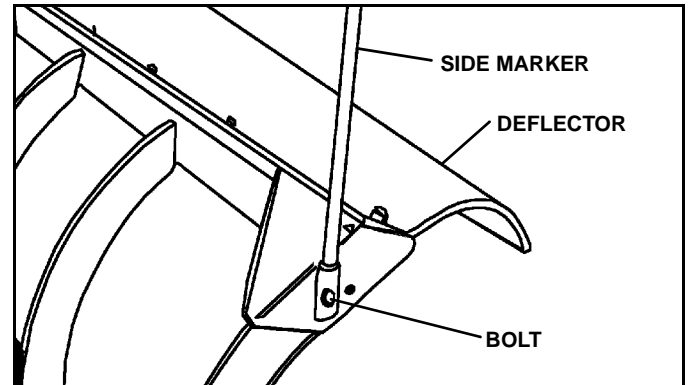

Figure 1-7
13. Remove the two (2) 5/16 x 2" cap screws, flat washers, and the two (2) spacers (#96102938) from the parts bag. Install the center deflector (shipped loose in the Power Pack carton) using the two (2) spacers, 5/16 x 2" cap screws and flat washers removed earlier. Torque to 15 lb-ft.
15. Install blade guides (blade side markers) to holes in outside blade ribs, secure using hardware supplied with Blade Guide Kit. (See Figure 1-7).